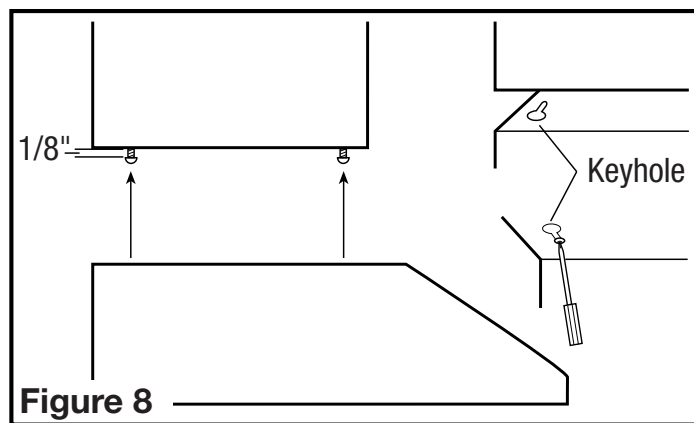

Figure 8
1. Install the 4 mounting screws at the previously marked locations. Leave approximately 1/8" clearance. Slide the hood in place through the keyhole slots and align the front of the hood so that it is flush with the front of the cabinets. Tighten all screws securely (Figure 8).